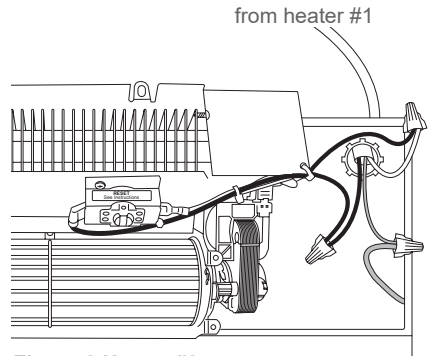

Figure 8 Heater #2
1. Route the electrical supply wire from the circuit breaker to the wall thermostat. At the wall can of heater #1, remove two knockouts and attach two sets of electrical supply wires with two cable clamp connectors (not included) leaving a minimum of 6 inches wire lead. One set of electrical supply wire goes to the wall thermostat and the other set goes to heater #2 (See Figure 8).
4. For heater #2, make the connections in the wall can as shown in Figure 8 above.